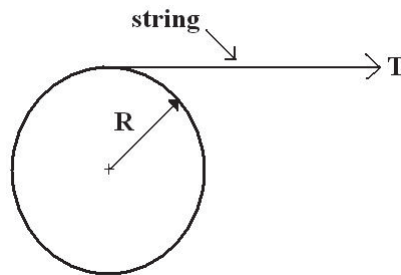

Figure 8.4: A top view of the central axle with radius R and the string providing the tension T .
where R is the radius of the central axle at shown in Fig. 8.4.
In this lab the force (F) comes from the tension (T) in the string that is acting perpendicular to the lever arm r , which here is the radius of the central axle (R), as shown in Fig. 8.4. So for this experiment Eq. 8.9 becomes: